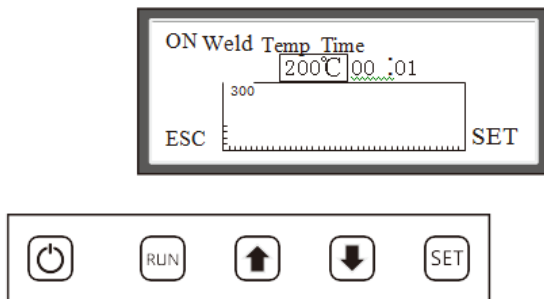
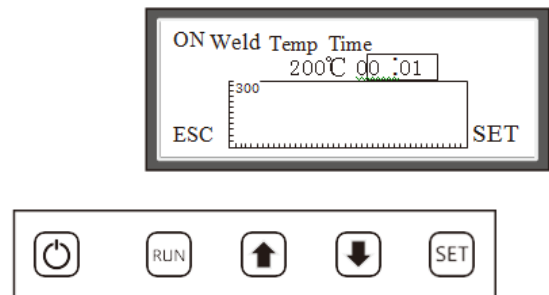

Fig. 9
Fig. 10
③. Press "SET" button to switch "Heating" to highlighted state, and press "PAGE DOWN" button to switch to "SOLDERING". Press "SET" Button again to switch "TEMPERATURE" to highlighted state. Press "PAGE UP" button and "PAGE DOWN" button to conduct the setting of "TEMPERATURE" as shown in Fig.9. Press "SET" Button again to switch to "TIME" setting to highlighted state as shown in Fig.10, and then conduct time setting.